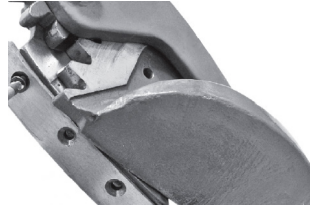

Figure 7
3. Loosen and remove 3 Phillips blade retaining screws #13 from the underside of Upper Blade #12 (Figure 7) and carefully remove blade.